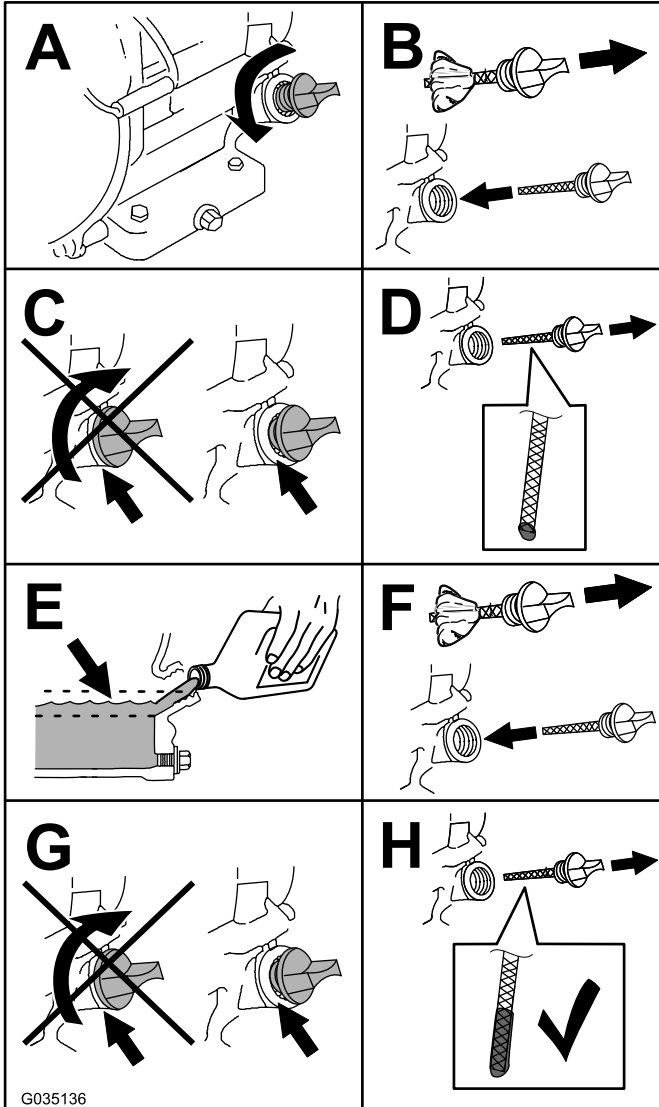

Figure 15
1. Clean the paper element by tapping it gently to remove dust. If it is very dirty, replace the paper element (Figure 15).
3. Check the engine-oil level as shown in Figure 15.